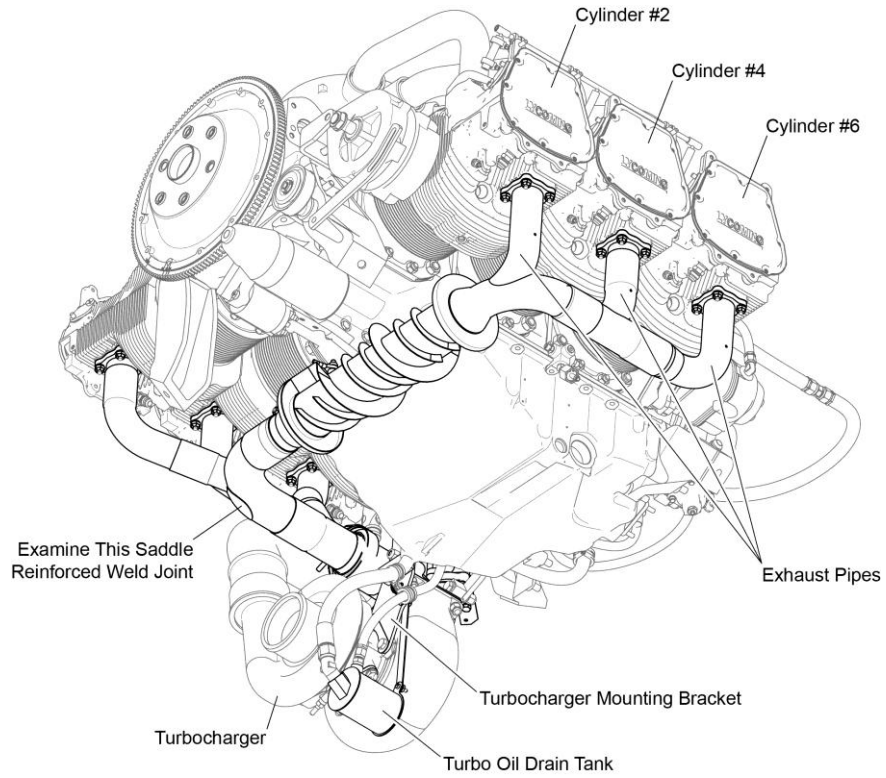

Figure 1
This Service Bulletin contains turbocharger mounting bracket replacement instructions, disassembly/inspection/assembly instructions for the exhaust system (Figures 1 and 2), and warranty instructions for specific Lycoming engine models TIO-540-AJ1A, identified in Table 1. This mandatory inspection and turbocharger mounting bracket replacement must be done on engines identified in the Time of Compliance above.
10. Repeat the previous step for the three exhaust pipes on the 1-3-5 (odd-numbered) cylinder side of the engine (Figure 1).
4. Complete a visual inspection on the entire exhaust system (Figures 1, 2, and 3) for any signs of leaks, distortion, or damage. Examine closely at all weld joints. Replace any damaged component.